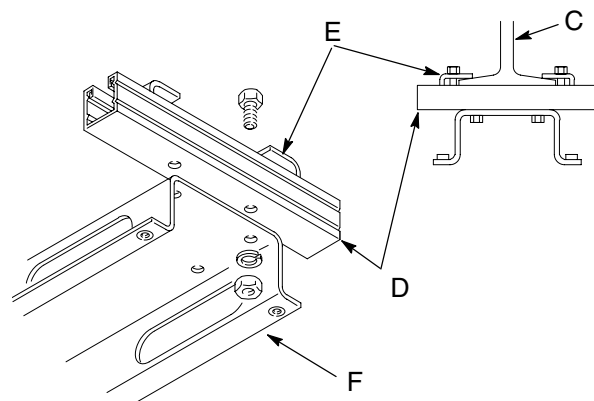

Fig. 7
1. Secure two accessory mounting brackets (D) as shown in Fig. 7. Use two mounting brackets for each 1 to 3 capacity mounting channels (F).
2. Position the adjustable clamps (E) of the mounting brackets over the I-Beam (C), and tighten them securely. See Fig. 7.